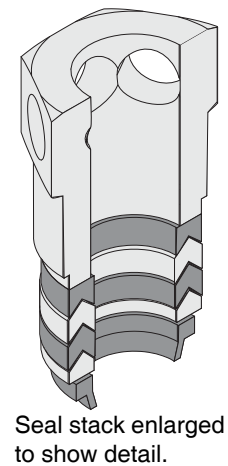

**FIG. 25**
13. Remove hex nut (27) from mounting flange (26). Remove female gland (30\*), 2 PTFE packings (29\*), male gland (28\*) and wiper (31\*). Inspect all parts for damage. See FIG. 25.